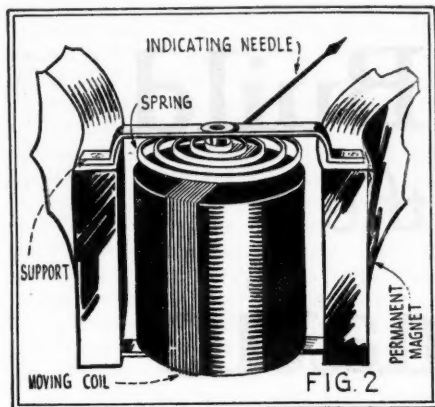

FIG. 2
The other type of meter consists of a galvanometer and a series resistor or "multiplier." (See Fig. 2.) The galvanometer is of the type developed by D'Arsonval in France, and is used for almost all direct-current work. The basic element consists of a moving coil swung between bearings, suspended in an air gap, in the concentrated magnetic field of a permanent magnet. This type of meter is much more sensitive and accurate than the moving-vane type.
Fig. 1 shows the six popular methods of coupling the antenna circuit with a radio receiver. Circuit A is most often employed in broadcast sets. Fig. 2 shows five systems of interstage
A more careful study of circuit diagrams will show that there is a great similarity between practically all interstage R.F. coupling circuits. Fig. 2 shows the five most popular systems in use; in circuits A, B, D and E a radio-frequency transformer (L), the secondary winding of which is tuned by the variable condenser C, is used for coupling the plate circuit of one tube with the grid circuit of the following tube. This radio-frequency transformer and its tuning condenser are of exactly the same design as the antenna coupler and its tuning condenser, shown at A in Fig. 1.